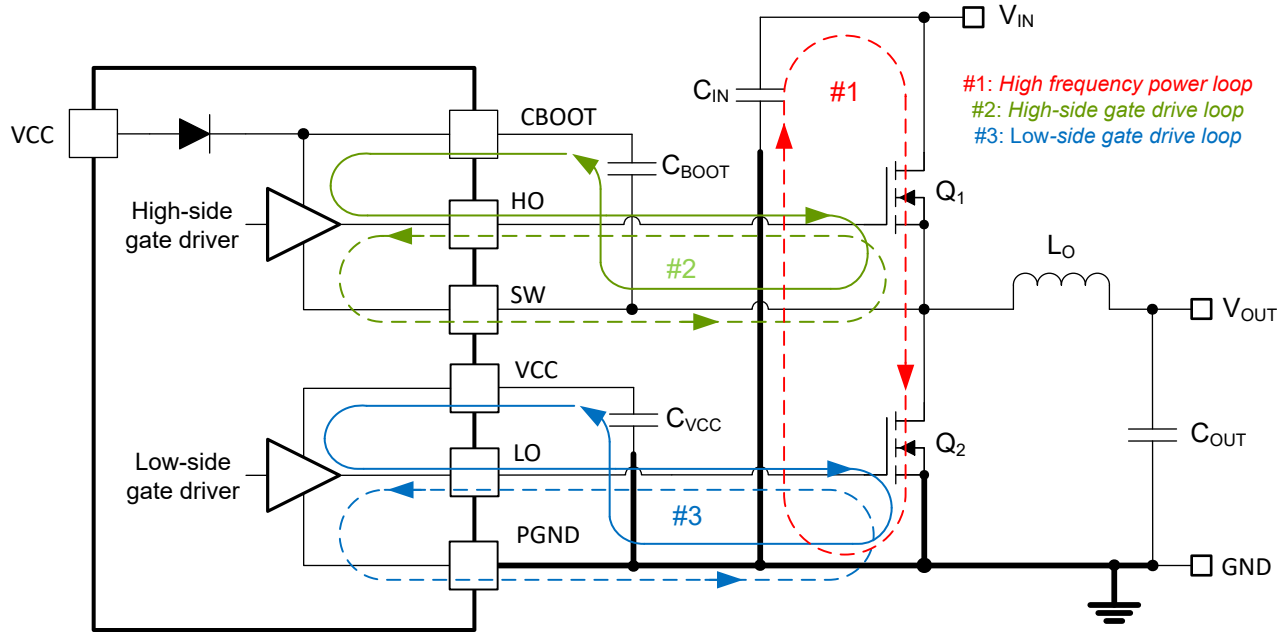

Figure 9-47. DC/DC Regulator Ground System With Power Stage and Gate Drive Circuit Switching Loops
Proper PCB design and layout is important in a high-current, fast-switching circuit (with high current and voltage slew rates) to achieve a robust and reliable design. As expected, certain issues must be considered before designing a PCB layout using the LM5149-Q1. The high-frequency power loop of a buck regulator power stage is denoted by loop 1 in the shaded area of Figure 9-47. The topological architecture of a buck regulator means that particularly high di/dt current flows in the components of loop 1, and it becomes mandatory to reduce the parasitic inductance of this loop by minimizing its effective loop area. Also important are the gate drive loops of the high-side and low-side MOSFETs, denoted by 2 and 3, respectively, in Figure 9-47.
- Loop 1: The most important loop area to minimize is the path from the input capacitor or capacitors through the high- and low-side MOSFETs, and back to the capacitor or capacitors through the ground connection. Connect the input capacitor or capacitors negative terminal close to the source of the low-side MOSFET (at ground). Similarly, connect the input capacitor or capacitors positive terminal close to the drain of the high-side MOSFET (at VIN). Refer to loop 1 of Figure 9-47.
- The SW pin connects to the switch node of the power conversion stage and acts as the return path for the high-side gate driver. The parasitic inductance inherent to loop 1 in Figure 9-47 and the output capacitance (C_{OSS}) of both power MOSFETs form a resonant circuit that induces high frequency (greater than 50 MHz) ringing at the SW node. The voltage peak of this ringing, if not controlled, can be significantly higher than the input voltage. Make sure that the peak ringing amplitude does not exceed the absolute maximum rating limit for the SW pin. In many cases, a series resistor and capacitor snubber network connected from the SW node to GND damps the ringing and decreases the peak amplitude. Provide provisions for snubber network components in the PCB layout. If testing reveals that the ringing amplitude at the SW pin is excessive, then include snubber components as needed.
- Loop 2: high-side MOSFET, Q₁. During the high-side MOSFET turn-on, high current flows from the bootstrap (boot) capacitor through the gate driver and high-side MOSFET, and back to the negative terminal of the boot capacitor through the SW connection. Conversely, to turn off the high-side MOSFET, high current flows from the gate of the high-side MOSFET through the gate driver and SW, and back to the source of the high-side MOSFET through the SW trace. Refer to loop 2 of Figure 9-47.
- Loop 3: low-side MOSFET, Q₂. During the low-side MOSFET turn-on, high current flows from the VCC decoupling capacitor through the gate driver and low-side MOSFET, and back to the negative terminal of the capacitor through ground. Conversely, to turn off the low-side MOSFET, high current flows from the gate of the low-side MOSFET through the gate driver and GND, and back to the source of the low-side MOSFET through ground. Refer to loop 3 of Figure 9-47.